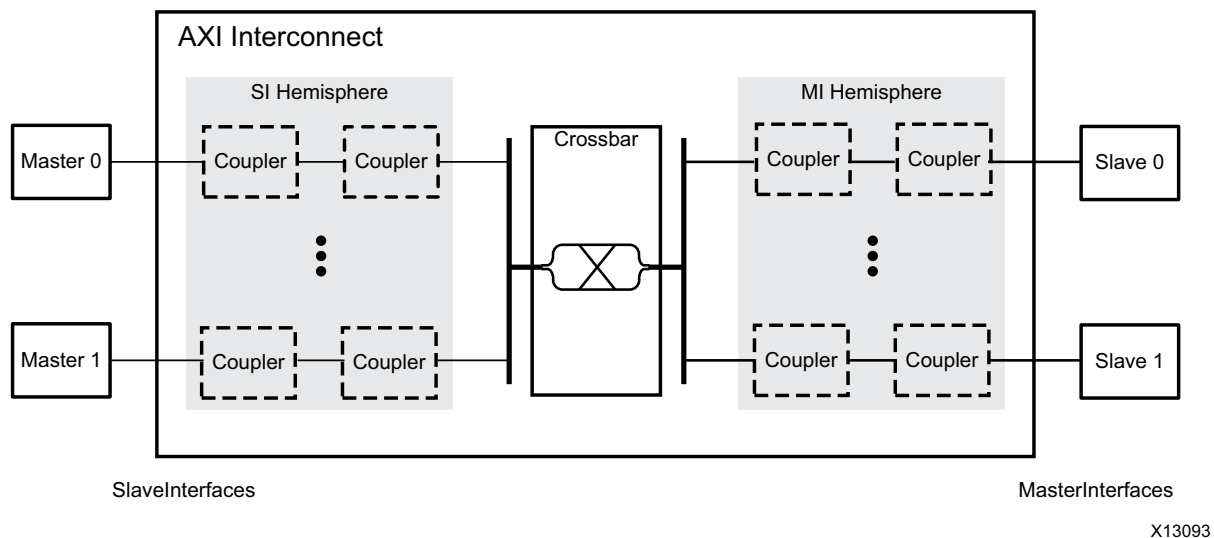

Figure 2-1: AXI Interconnect Core Diagram
Figure 2-1 shows the top-most AXI Interconnect core block diagram. Inside the AXI Interconnect core, a Crossbar core routes traffic between the Slave Interfaces (SI) and Master Interfaces (MI). Along each pathway connecting a SI or MI to the Crossbar, an optional series of AXI Infrastructure cores (couplers) can perform various conversion and buffering functions. The couplers include: Register Slice, Data FIFO, Clock Converter, Data Width Converter and Protocol Converter.